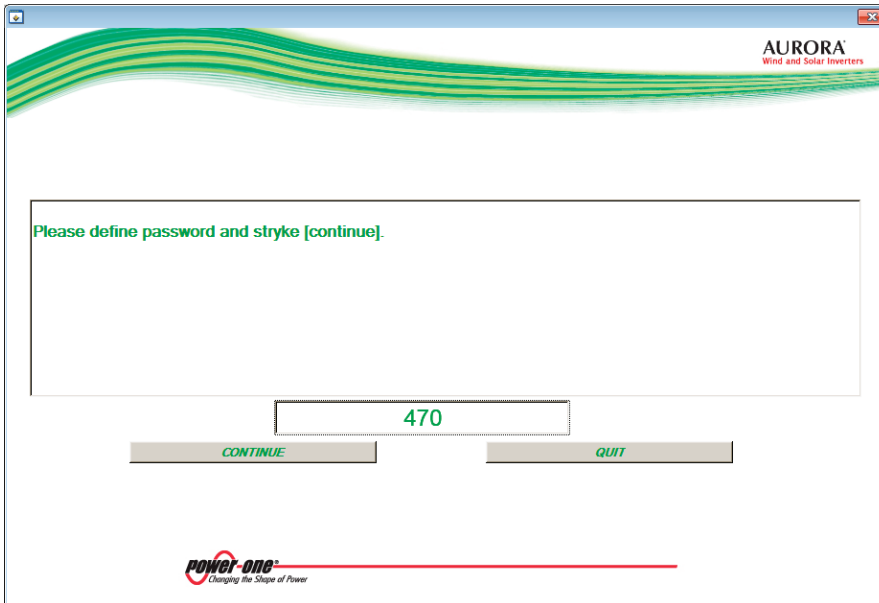

Figure 3
13) Click on the button “GO in RESET”. On the following screen (Fig. 3), enter the password “470” and click on “CONTINUE”.